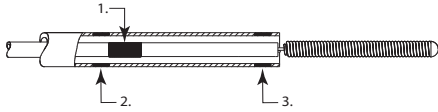

Figure 2
8. Continue to advance the Axiom™ Prime Detachable Coil until the coil alignment marker of the implant pusher is just distal of the proximal marker of the microcatheter (See Figure 2).